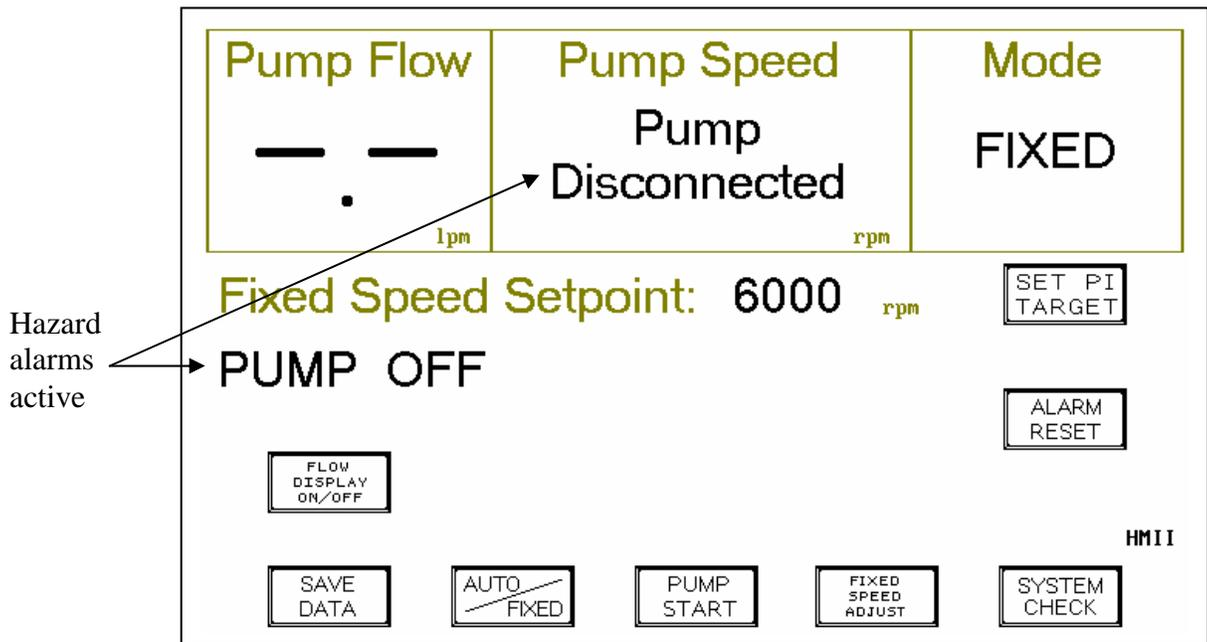

Figure 5: System Monitor Clinical Screen - detecting a hazard alarm condition
- 3 Verify that a flashing “HMII” icon is shown in the lower right hand corner of the System Monitor screen. This icon establishes that System Monitor is properly connected to the System Controller and the correct monitoring software is running. The System Monitor display will indicate FIXED mode and also display the “PUMP OFF” and “Pump Disconnected” messages in the clinical and system check screens (Figures 5 & 6).